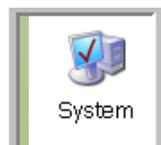

FIG. 123
2. Double click on the System Icon (FIG. 123).